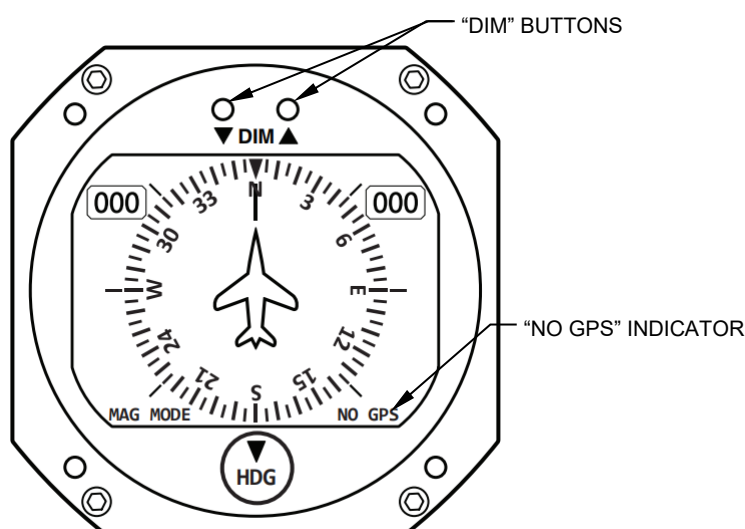

Figure 12
24. Move the aircraft outside to allow the Heading Indicator(s) to acquire a GPS signal. The "NO GPS" indicator should extinguish once the signal is established. Reference Figure 12.
- i. While in flight, and after at least three minutes after turning on the instrument, depress and hold the two “DIM” buttons simultaneously for about ten seconds until the message “Gathering Mag Data” is displayed on the instrument. The instrument will gather data for the next ten minutes. Reference Figure 12.